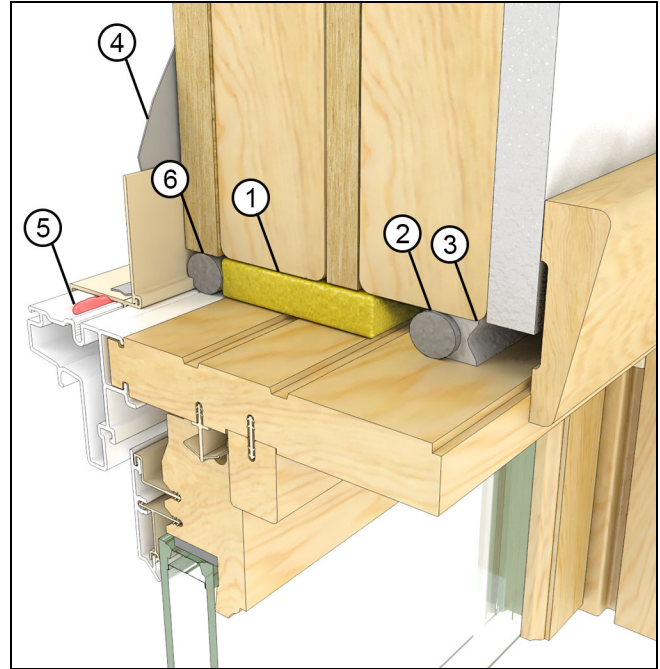

Figure 46
2. Low Expansion Foam. Install a backer rod at the exterior plane of the RO. Apply a low expansion/low compression closed cell foam in the cavity. Install a backer rod and sealant at the interior plane of the RO to create a continuous air seal. See Figure 46.